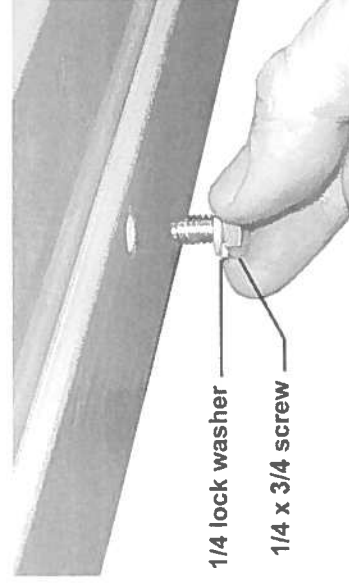

Figure 13
2. Fasten the guide tube to the rail from beneath, with eight 1/4-20 x 3/4 hex cap screws and eight 1/4 lock washers (Figure 13). Finger-tighten only.